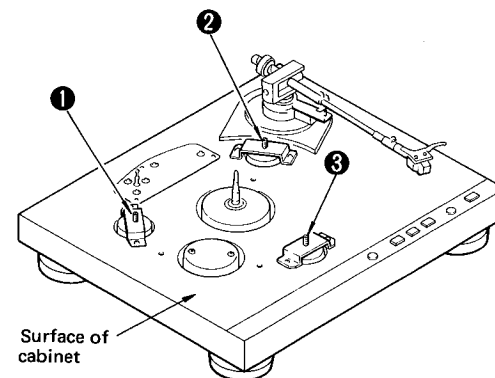

Fig. 1
1. Adjust so that the space between platter and surface of cabinet is 4 mm  $\pm$  0.2 mm by turning screws ① to ③ in Fig. 1.